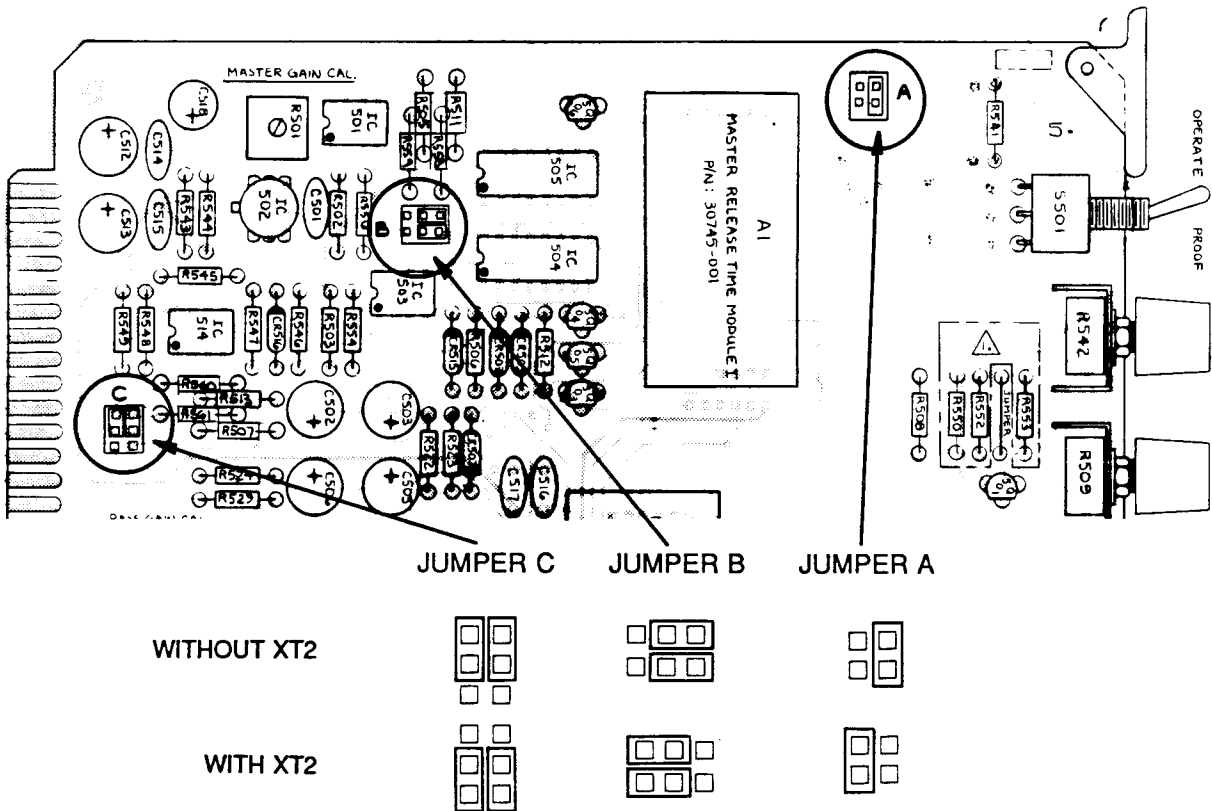

Fig. 2-6: Jumper Positions, Card #5
- c  Position jumpers A, B, and C on Card #5 as shown in Fig. 2-6.